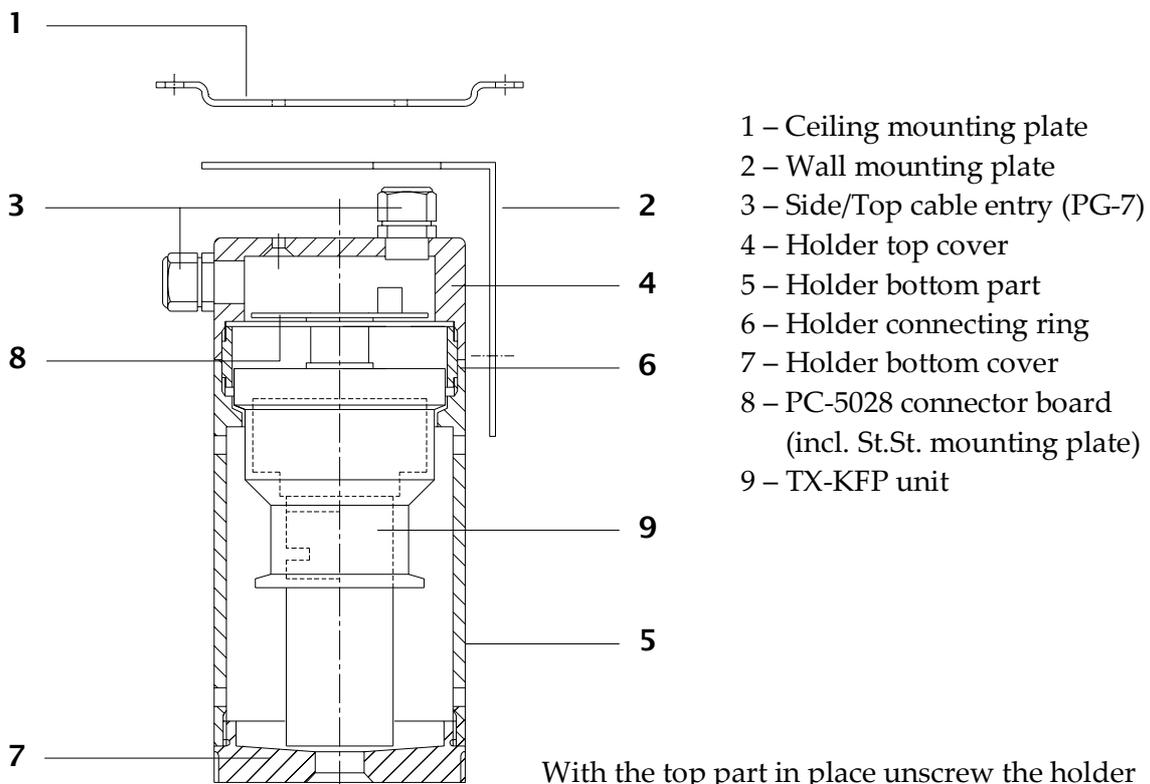

Fig. 3.2.5
To install the holder (see fig. 3.2.5), unscrew the bottom part (items 5 and 7) from the top part (item 4) and firstly install the mounting bracket incl. the top part of the holder either to the wall or ceiling.